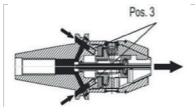

Figure 13: Threaded pins open coolant supply
1. Turn on bore "B" the two threaded pins clockwise by using the **size 2.5** hex-wrench until the threaded pins fit at item 3 (see "Figure 13: Threaded pins open coolant supply").